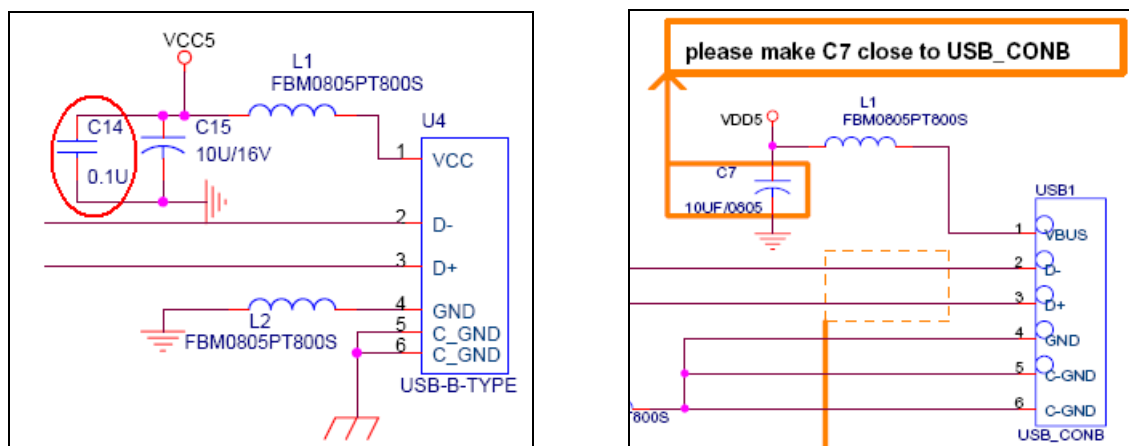

Figure-2: PL-2303H and PL-2303HxD Schematic Diagram (5V Capacitor) Comparison
- For PL-2303HxD, you can remove the 0.1μF capacitor (C14 in PL-2303H schematic) and just use 10uF as 5V capacitor (C7 in PL-2303HxD schematic). See Figure-2 below.